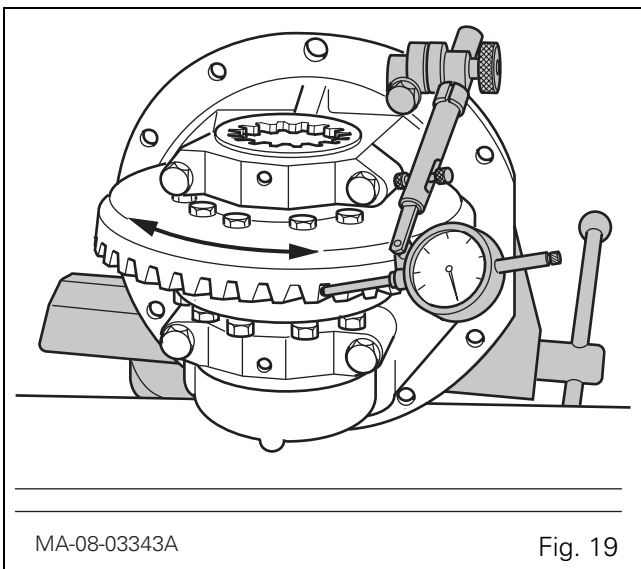

Fig. 19
74. Check the backlash using a dial gauge (Fig. 19), moving it both ways around the ring gear without causing the pinion to turn.